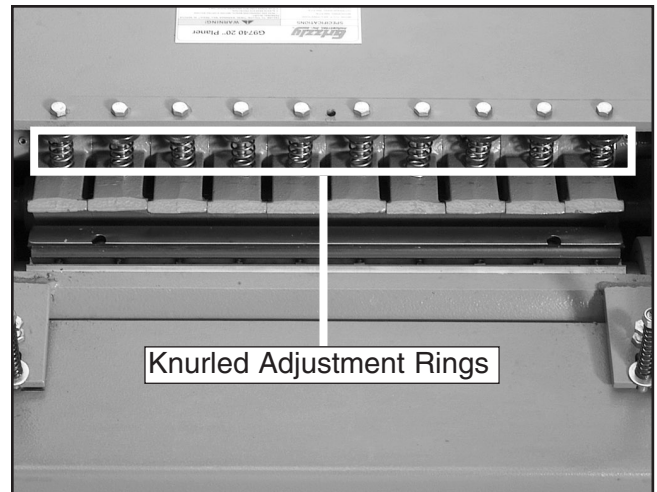

Figure 18. Chip deflector spring pressure controls.
2. Rotate the knurled adjustment rings shown in **Figure 18** either left or right to increase or decrease the spring tension.